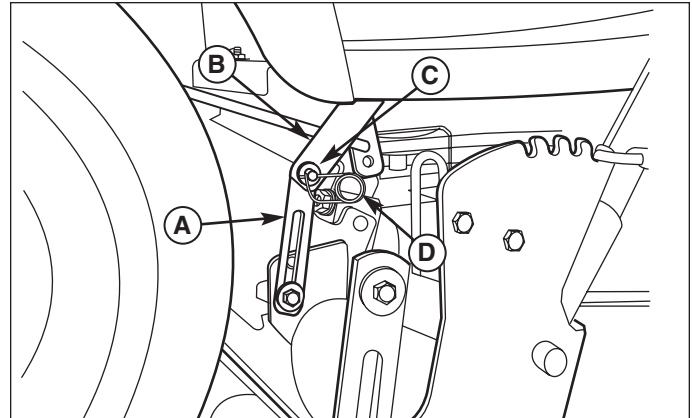

Figure 9. Lift Arms
4. Disconnect the mower lift arms (A, Figure 9) from the tractor lift arms (B) on both sides of the mower deck. Re-install washers (C) and safety clips (D).
6. See Figure 9. Connect the mower lift arms (A) to the tractor lift arms (B) using the flat washer (C) and safety clip (D).